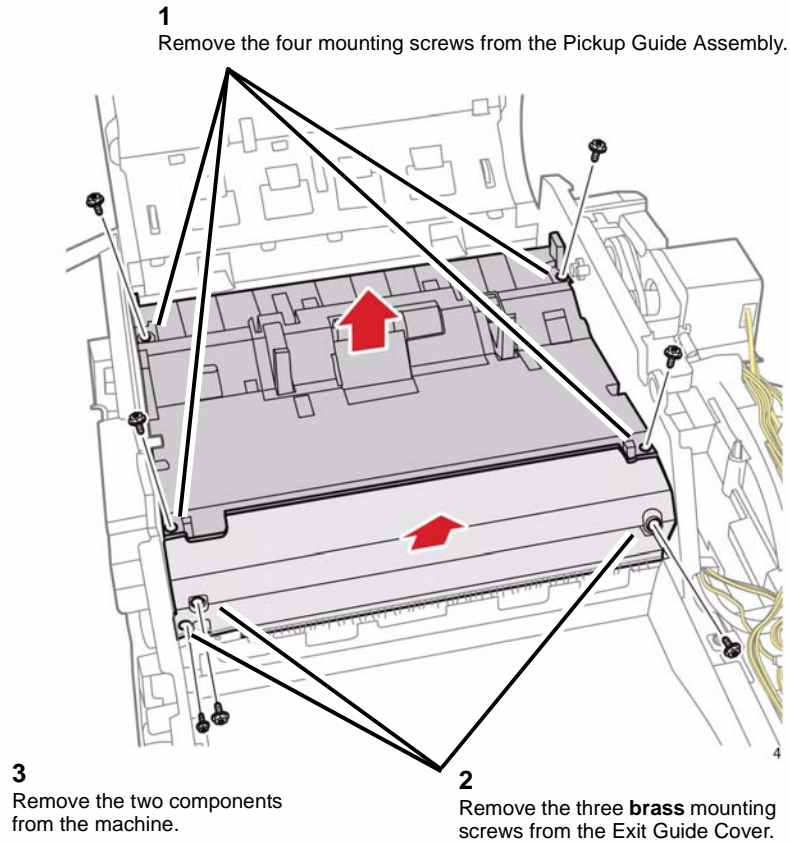

Figure 8 Removing the Pickup Guide Assembly and Exit Guide Cover
10. Remove the Pickup Guide Assembly and the Exit Guide Cover (Figure 8).